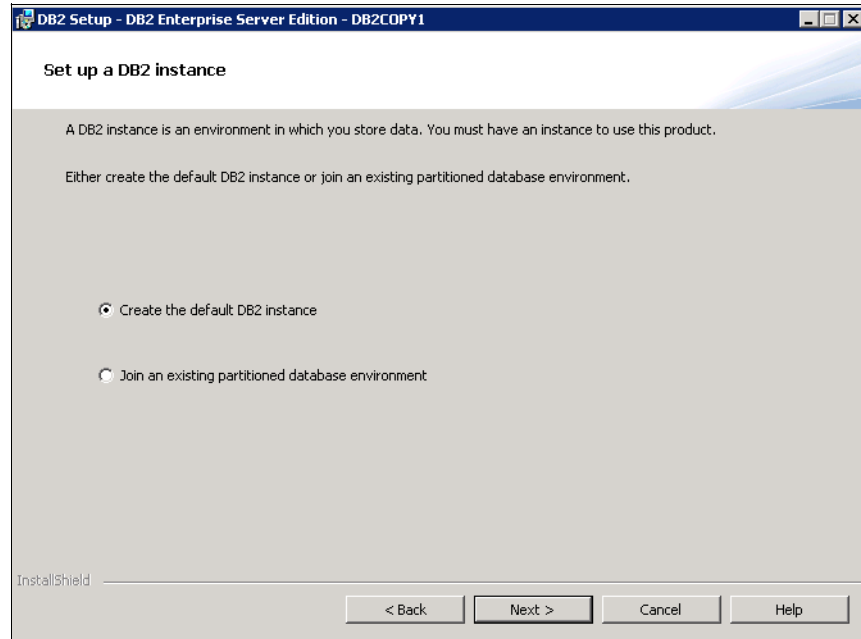

Figure 12-10 Create default DB2 instance
9. Select **Create the default DB2 Instance** and click **Next** (Figure 12-10).